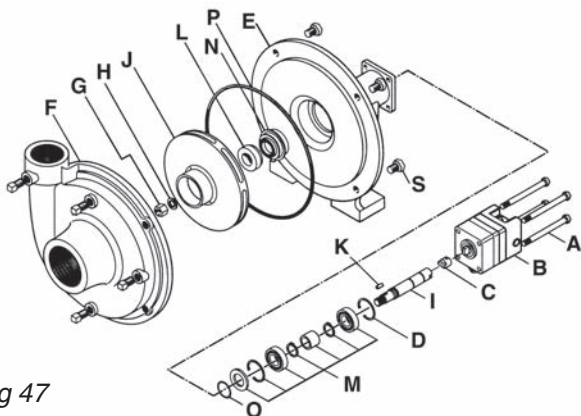

Fig 47
- 1 Remove screws (A Fig 47), motor (B) and coupler (C).
- 2 Remove rear bearing snap ring (D), four screws (S) from mounting frame (E), and volute (F).
- 3 Remove lock nut (G) and washer (H) from shaft (I).
- 4 Carefully hold impeller vane (J) stationery, and press shaft out of impeller using one of the long hex screws.
- 5 Remove impeller, key (K) and rotating seal member (L). Press shaft (with bearings (M)) assembly out of frame.
- 6 Remove stationery seal member (N) and O-ring (O) from shaft groove.